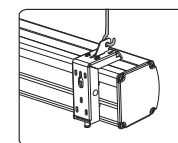

Figure 17
4. Place hooks through the hanging brackets to suspend the projection screen as shown. See figure 17.